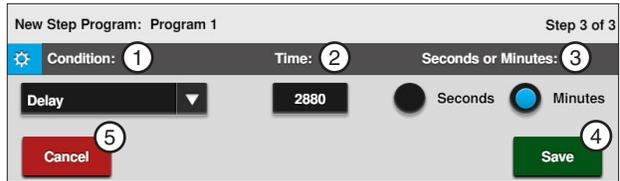

Figure 128-1 1. Delay Condition 4. Save
29. Program the delay time condition for this step. Refer to Figure 128-1.